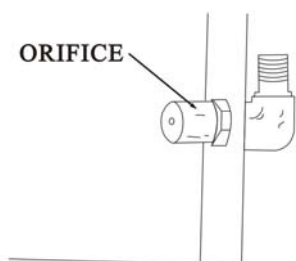
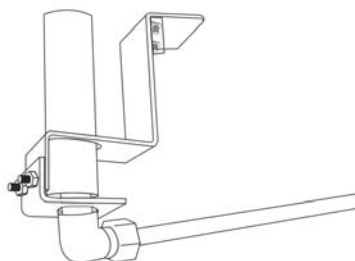

Figure 8
Figure 9
- Replace the propane orifice (See Fig.8) with the natural gas orifice from the kit and reinstall the orifice holder by tightening the nuts as shown in Fig. 9. Reconnect and tighten the gas tube to the orifice.